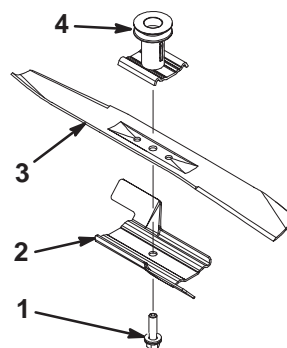

Figure 15
2. Remove the blade bolt, the accelerator, and the blade (Fig. 15).
1. Install a sharp, balanced Toro blade, the accelerator, and the blade bolt (Fig. 15).